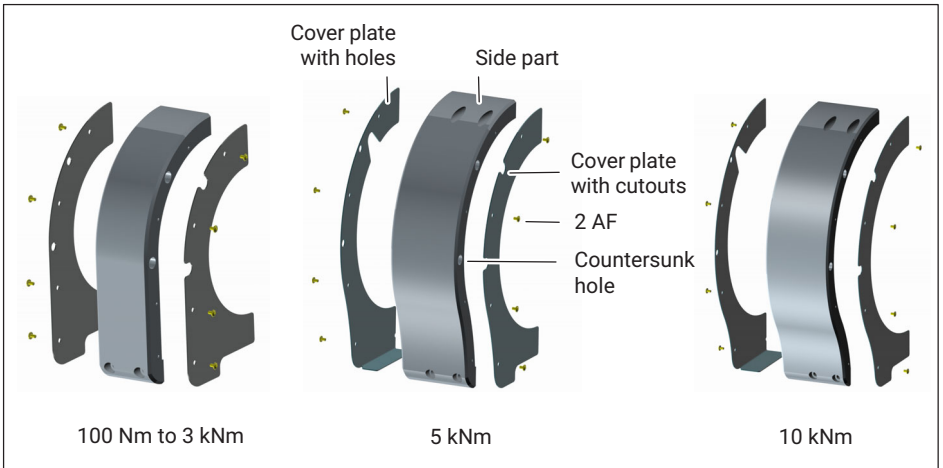

Fig. 8.7 Fitting the cover plates
- Screw the cover plates onto the side parts (hexagon socket screws, 2 AF; tightening torque $M_A = 1 \text{ N} \cdot \text{m}$). Make sure that the cover plate with the cutouts is fitted on the side with the countersunk holes! (See Fig. 8.7.)